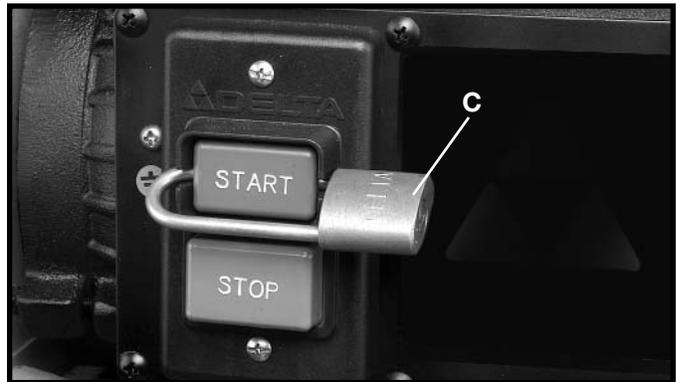

Fig. 19
IMPORTANT: When the machine is not in use, the switch should be locked in the "OFF" position using a padlock (C) Fig. 19, with a 3/16" diameter shackle to prevent unauthorized use.